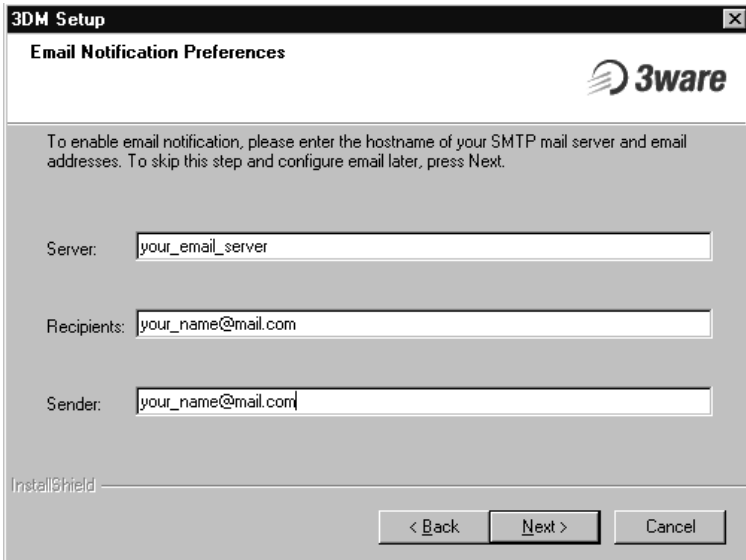

Figure 49. 3DM E-mail Notification Preferences
- 5 At the **E-mail Notification Preferences** window (see Figure 49) enter the e-mail address of the user who will be receiving the 3DM e-mail status messages. You may enter multiple e-mail addresses, separating each entry with a comma (.). If you do not know your server name, ask your system administrator or check the e-mail preferences or setup options on your e-mail client.